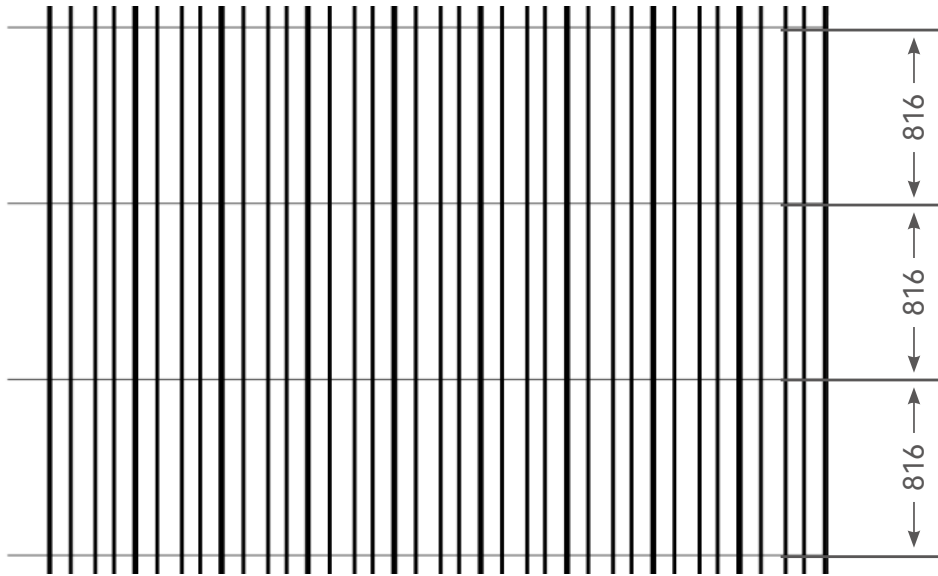

FIGURE 18
① First determine the installation position of the clamp, then carry out the snapline as the installation axis, the centre line of each row of the clamp should be $816 \pm 2\text{mm}$ apart, note that the snapline is at an angle of 90 degrees to the rib of the colour steel tile (Figure 18)